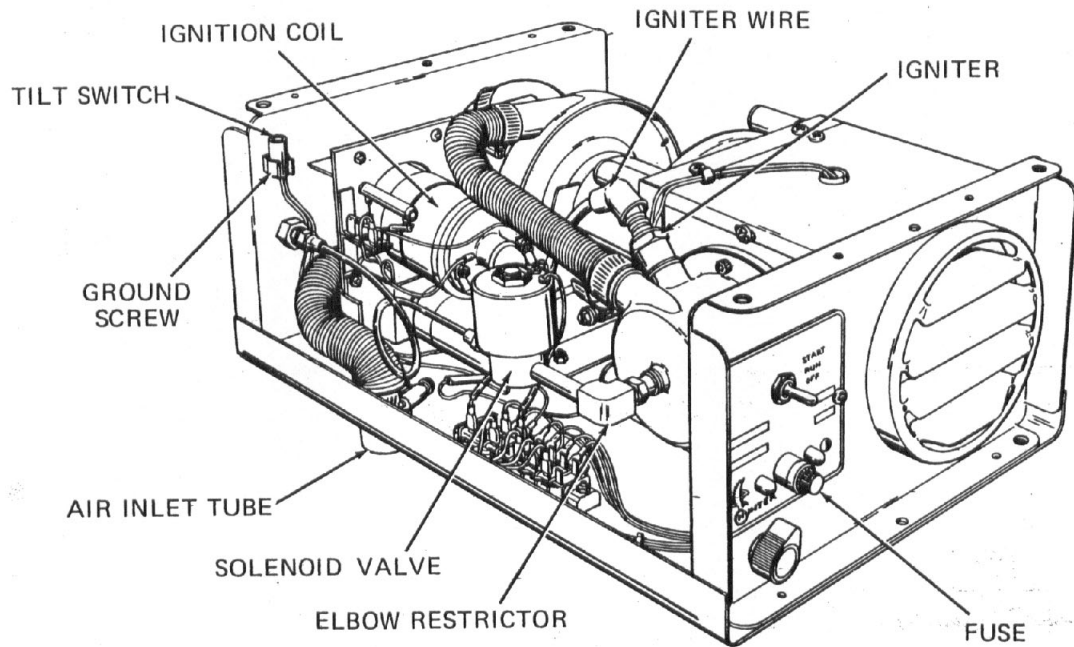

Figure 6. Component Locations
2. Refer to the wiring diagram in figure 4 for assistance in locating wires. Component locations are shown in figure 6.